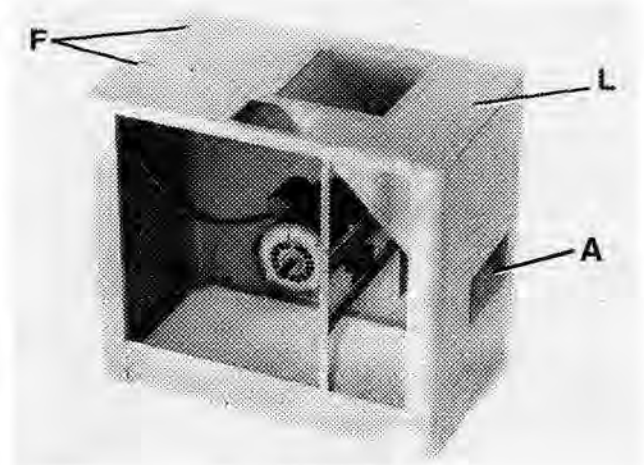
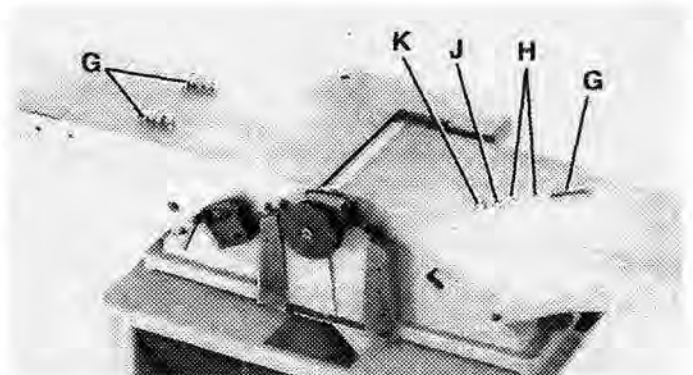

FIGURE 2
FIGURE 3
1. The outfeed end of the jointer will be located at the side of the stand with the dust chute (A) Fig. 2.
2. Unlock back panel lock knob at the rear of the enclosed stand, lift back panel and remove. Figure 2 illustrates the enclosed stand with the back panel removed.
3. Line up three holes (F) and (L) Fig. 2, on top stand with three holes located at the bottom of the jointer base and fasten the jointer to the base with three $\frac{3}{8}$ - 16 x 2" long hex head screws (G) Fig. 3, six flat washers (H), three lock washers (J), and three hex nuts (K). **CAUTION: THE JOINTER IS EXTREMELY HEAVY. WE STRONGLY SUGGEST THAT TWO OR MORE PEOPLE LIFT THE MACHINE ONTO THE STAND OR LIFT THE JOINTER MECHANICALLY. IMPORTANT:** Mounting screws for fastening the jointer to the stand through holes (F) should be started downward from the jointer base. Screw for mounting the jointer to the stand through hole (L) should be started upward from the inside of the stand.